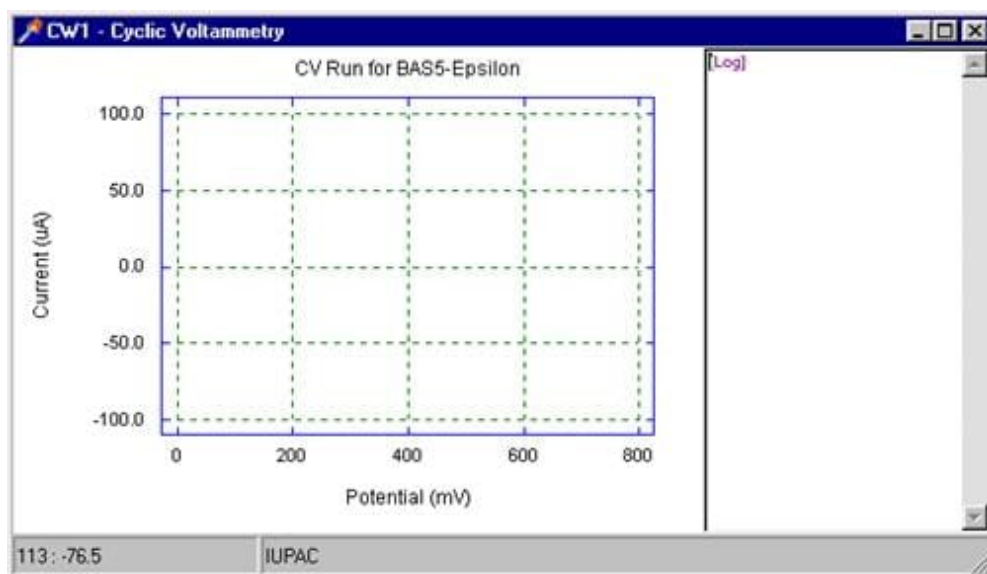

Figure 1.9: Computer Program
Highlight Cyclic Voltammetry (CV), and click Select to confirm the selection. An experiment window containing an empty axis set is displayed (Figure 1.9), and the appropriate parameters are set in the various dialog boxes.